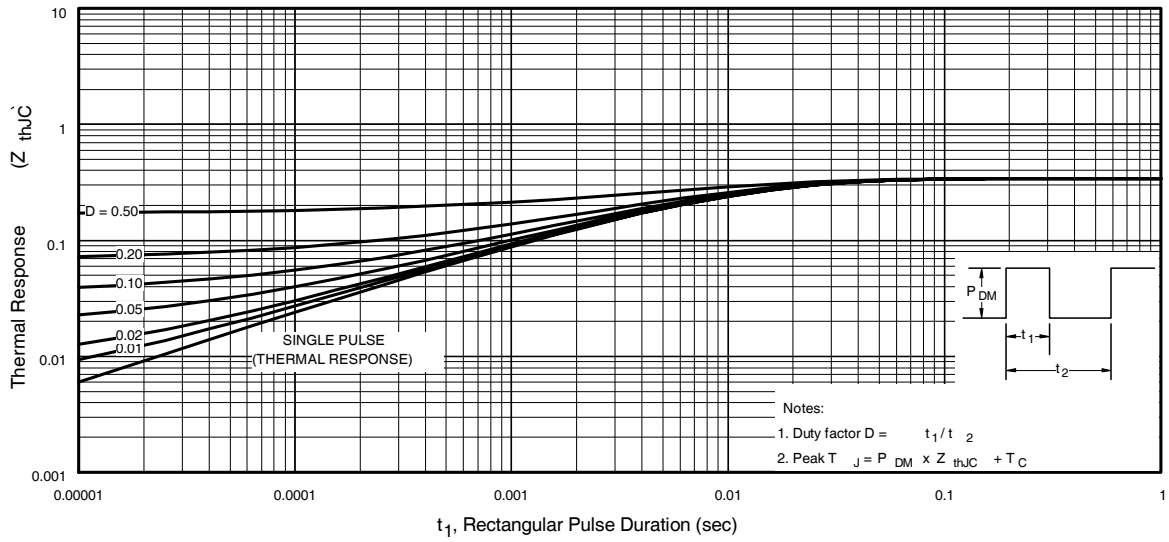

Fig 12. Maximum Effective Transient Thermal Impedance, Junction-to-Case
- ② Starting $T_J = 25^\circ\text{C}$, $L = 1.5\text{mH}$, $R_G = 25\Omega$, $I_{AS} = 23A$, $dv/dt = 14V/ns$. (See Figure 12).
- ③ $I_{SD} \leq 23A$, $di/dt \leq 430A/\mu\text{s}$, $V_{DD} \leq V_{(BR)DSS}$, $T_J \leq 150^\circ\text{C}$.
④ Pulse width $\leq 300\mu\text{s}$; duty cycle $\leq 2\%$.
⑤ $C_{oss \text{ eff.}}$ is a fixed capacitance that gives the same charging time as C_{oss} while V_{DS} is rising from 0 to 80% V_{DSS} .